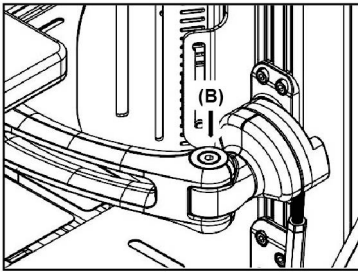

Fig B1-2
(2) Position (B), use a hexagon wrench to adjust the outward and inward angles of the armrest assembly. (Fig B1-2)